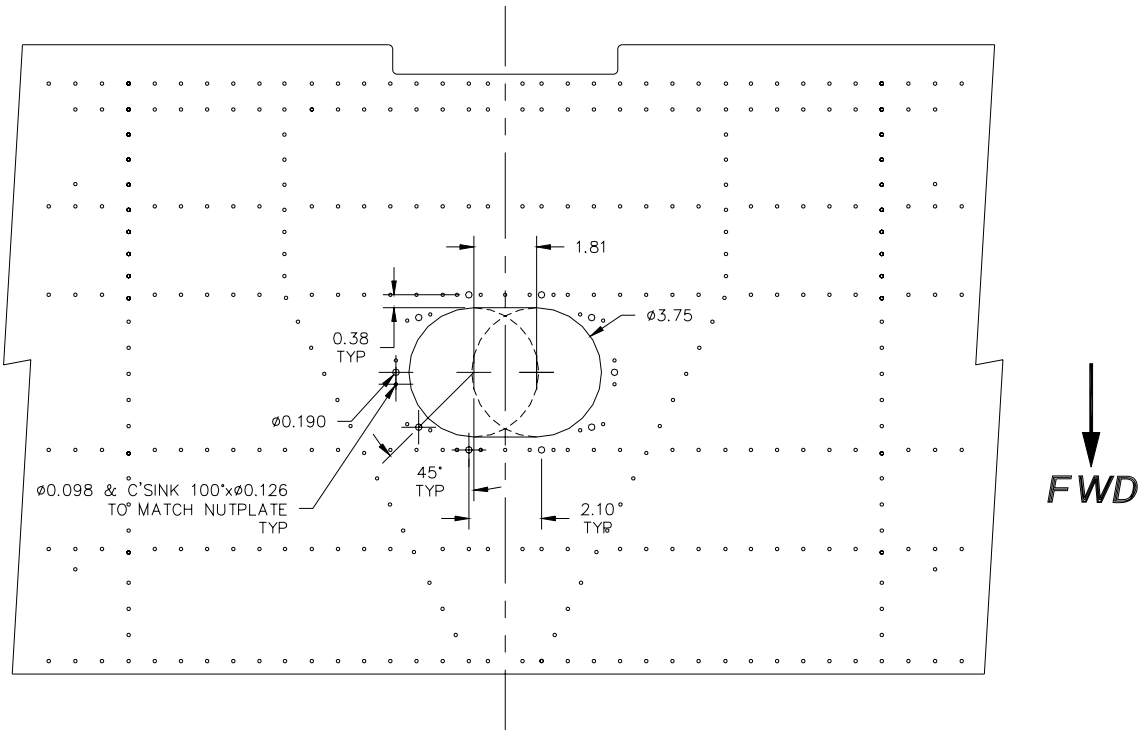
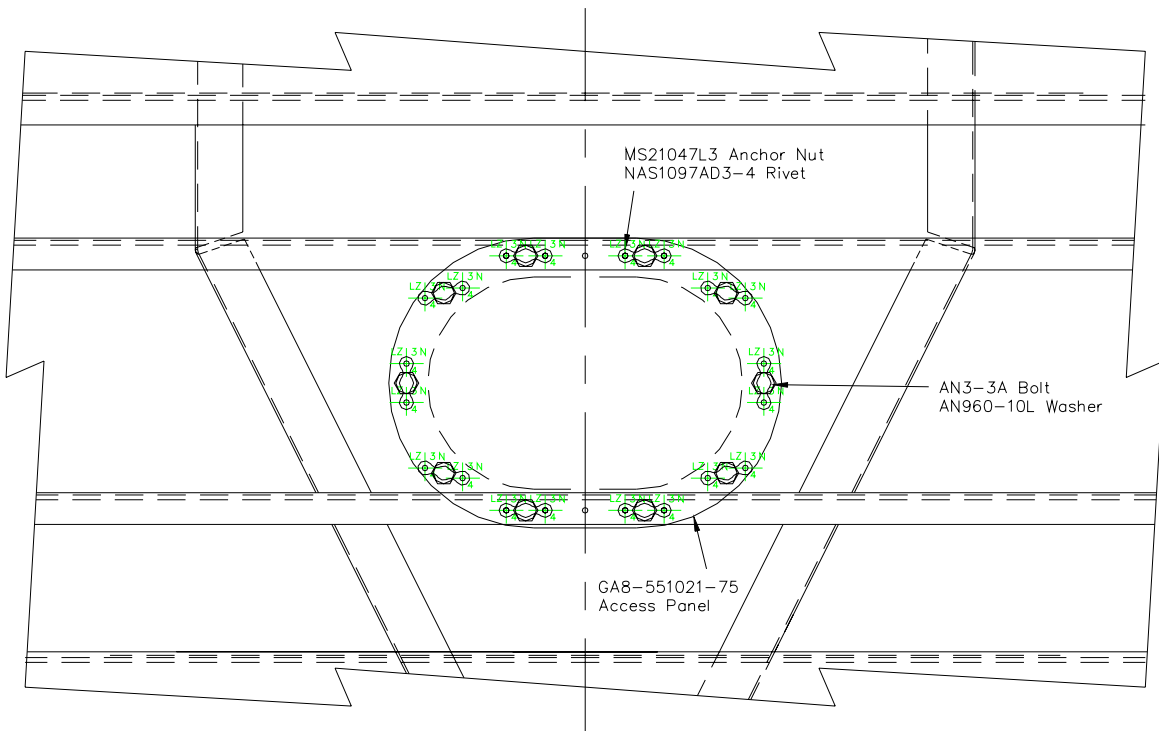

Figure 3
Figure 4
4. Cut an access hole as per Figure 3, attach anchor nuts as per Figure 4.
8. If no cracking is found, attach the access panel with bolts and washers specified in Figure 4.